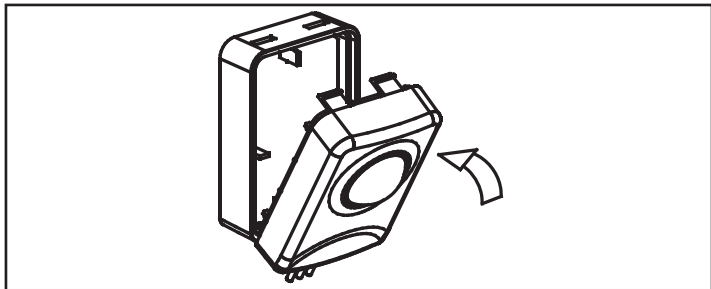

Figure 9. Connect Occupancy Sensor to Control Module
7. Snap the front cover of the occupancy sensor onto the back cover. See figure 9.